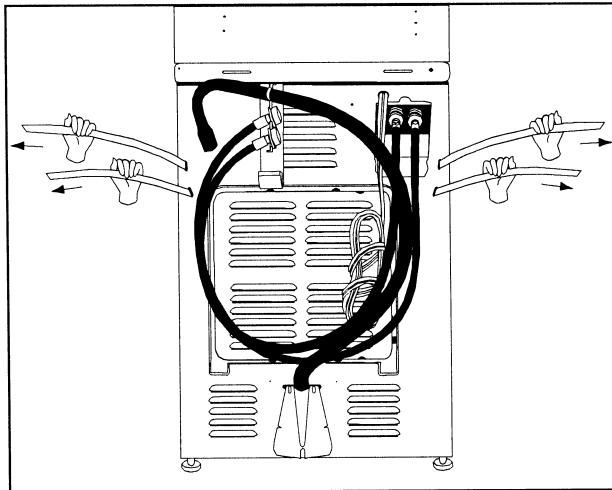

Figure 1-2
- B. Grasp each loose strap individually and pull the strap to remove it from the cabinet. Discard the strap (*Figure 1-2*).